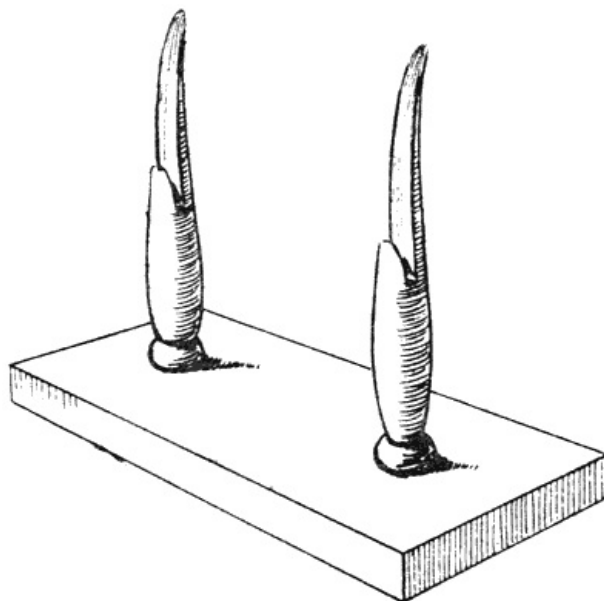

FIG. 44.
*Picture Postcard Stand*, for which the only necessities will be two pegs and a piece of wood for a base (Fig. 44).